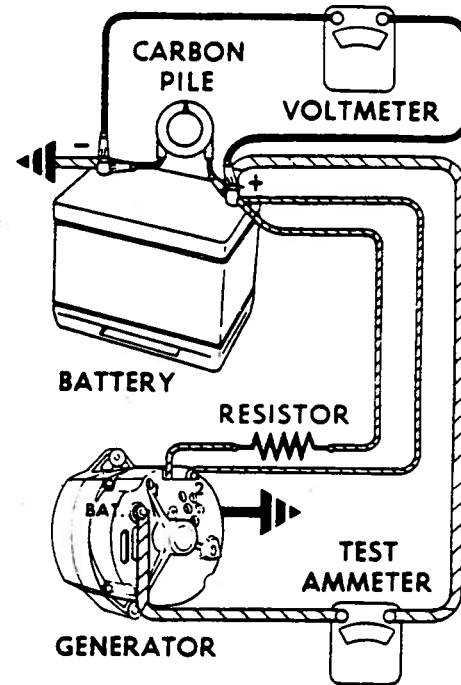

Figure 8-9. Circuit for Alternator Bench Check
o. Assemble slip ring end frame (3) with stator assembly (4) to drive end frame (1) with rotor assembly (2). Align scribe mark on frames then install thru-bolts (5).
1. Connect ammeter, voltmeter, resistor (10 ohms at 6 watts), alternator, and fully charged battery as shown in figure 8-9.
4. If voltage is below 15.5 volts, connect carbon pile as shown in figure 8-9.